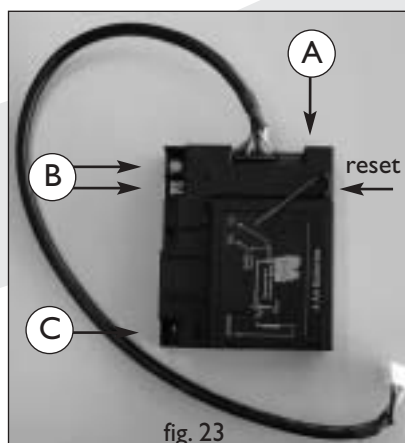

fig. 23
- Connect the ignition wiring (fig. 23, arrow C)
- If you are using an adaptor, connect it to the unit (fig 23, arrow A) and plug the appliance in.
- Connect the thermocouple wiring (fig. 23, arrows B)